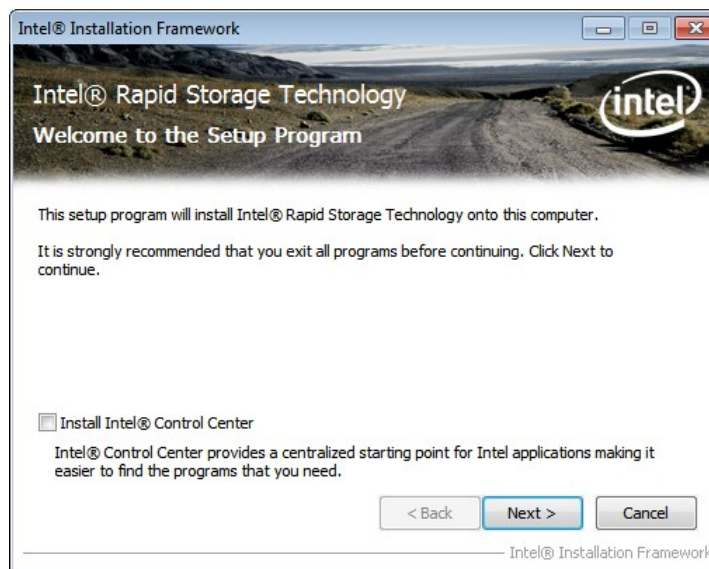

Figure 6-22: SATA RAID Driver Welcome Screen
Step 4: The **Welcome Screen** in **Figure 6-22** appears.